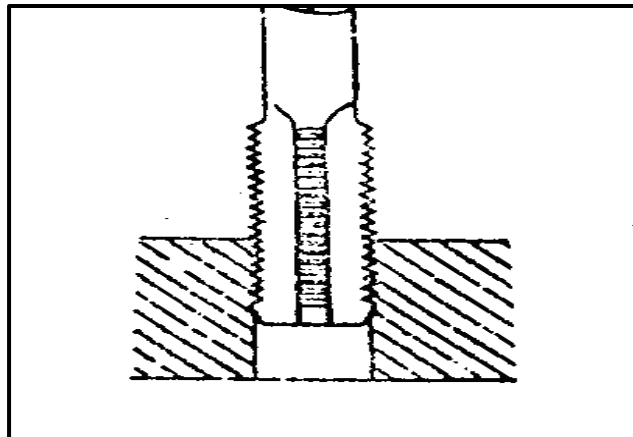

FIGURE 4.12
4.12 Identify the drilling operation in FIGURE 4.12.